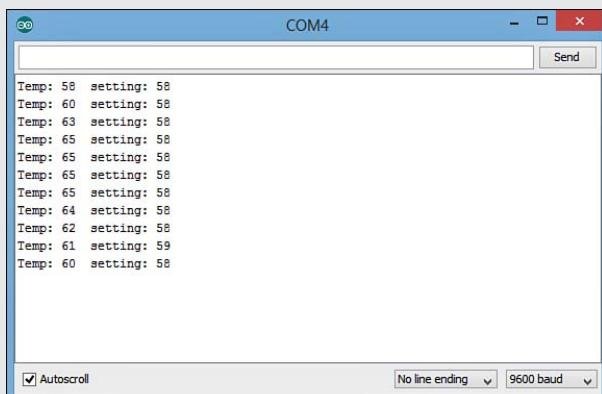

FIGURE 24.4
2. Turn the potentiometer to change the voltage output. Try to match the setting output to the temperature output as shown in the serial monitor. Figure 24.4 shows the output you should see.